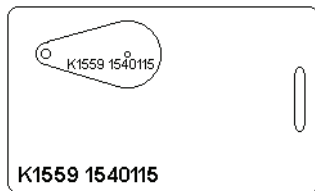

Figure 4-53: Proximity Card Number
NOTE: This method is valid for K-series Keri Systems Proximity Cards (identified by a leading “K” on the body of the card) and W-series Keri Systems Wiegand Cards (identified by a leading “W” on the body of the card), see Figure 4-53.
4. Locate the card number on the body of the card. The card number is the second set of digits printed on the body of the card (in Figure 4-53, it is the digits corresponding to 1540115). The card number will be more than 4 digits long. In this example, the entire number of the card is K1559 1540115; the card number is 1540115, 6 digits long.